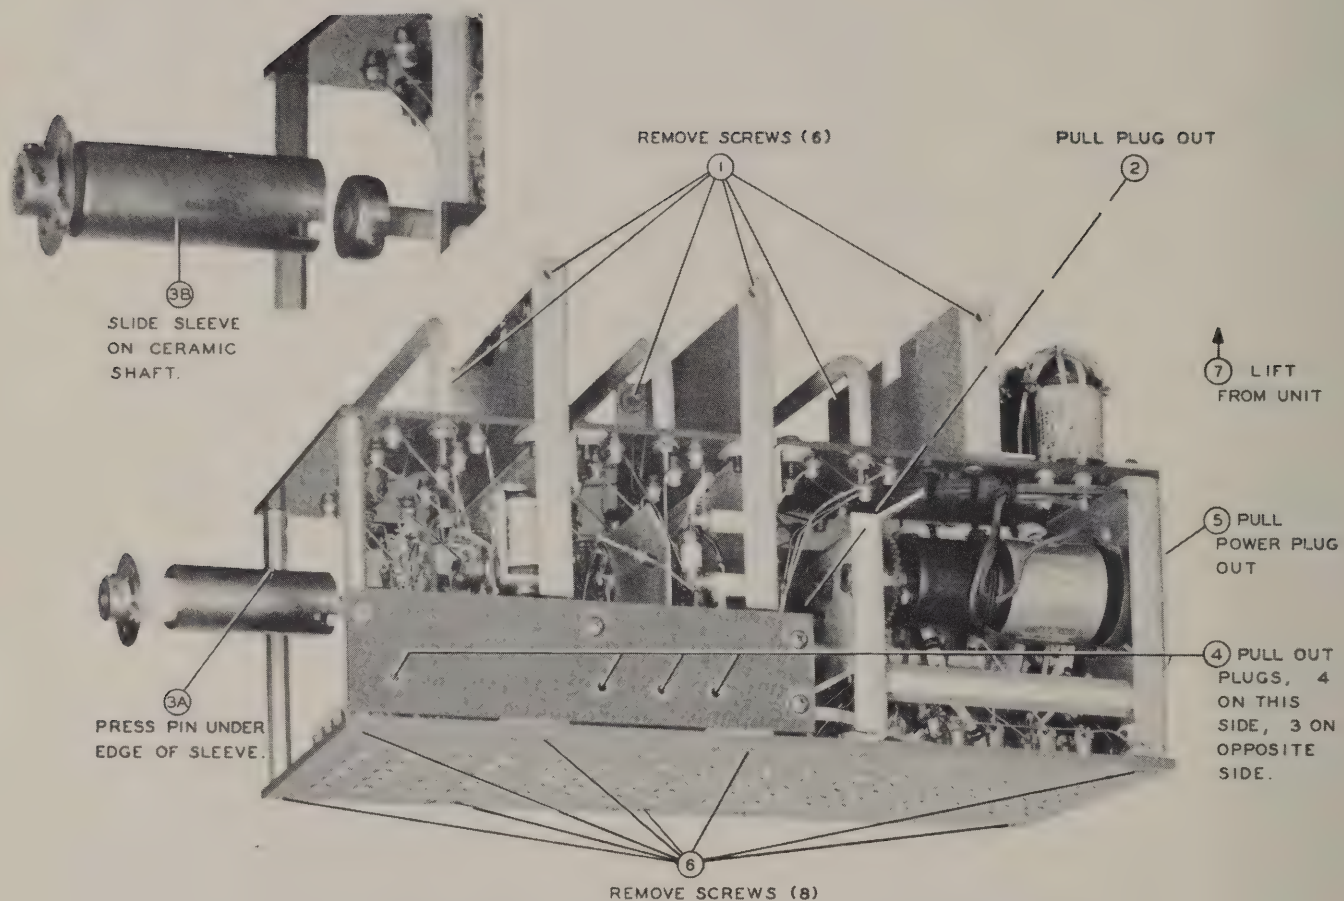

FIGURE 5-2 EXCITER REMOVAL PROCEDURE
**b. EXCITER ASSEMBLY.** See figure 5-2. - The exciter assembly is located in the center of the 18S-4 unit and consists of the receiver coils, the transmitter exciter coils, band change switches, crystal mounting plate and other components. To remove the exciter assembly from the major unit, proceed as follows:
(1) With the dust cover off, turn the 18S-4 unit right side up and remove the six screws which hold the exciter and exciter top cover in place and remove the cover.
(2) Disengage the small banana plug connector located at the left side of the exciter unit (near the type 1625 tube).
(3) Disconnect the flexible coupler from the exciter band change switch shaft by pressing the spring loaded pin (the pin closest the power amplifier switch pies) into the ceramic shaft and sliding the coupler sleeve back far enough to disengage the pins on the exciter band switch shaft.
(4) Turn the chassis over and disengage the small banana plug connections. There are three of these connections on the left side (viewed from the front of the unit) and 4 on the right side.
(5) Disengage the multi-terminal connector at the rear of the exciter unit.
(6) Remove the 8 screws located along the bottom lip of the exciter assembly which fasten the exciter unit interior to the outside shield.
(7) Lift the exciter interior from the chassis.